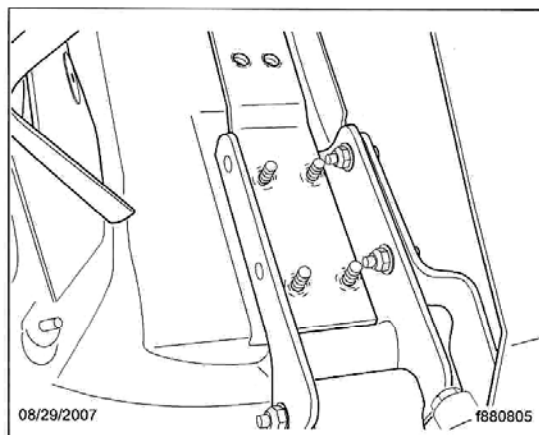

Fig. 3, Bracket Installed Over the Four Exposed Studs
6. Install bracket 17-17603-000 over the four exposed studs. See **Fig. 3**. Be sure the bracket follows the shape of the fiberglass hood reinforcement and is parallel on both sides of the hood edge. If not, adjust the hood before proceeding to the next steps.